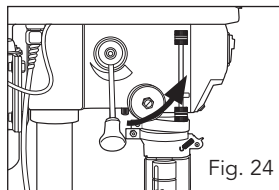

Fig. 24
1. Slowly and steadily move the speed control lever (14) while the machine is in idle mode (Fig. 24).